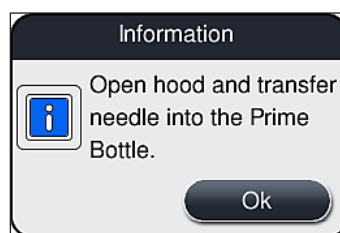

Fig. 97
3. Observe the following information message (→ Fig. 97).
5. Stick the needle unit (→ Fig. 98-1) in the prime bottle (→ Fig. 98-3) and acknowledge the information message (→ Fig. 97) with **OK**.
4. Note the following information messages (→ Fig. 96), (→ Fig. 97) and (→ Fig. 101) and confirm each with **Ok**.